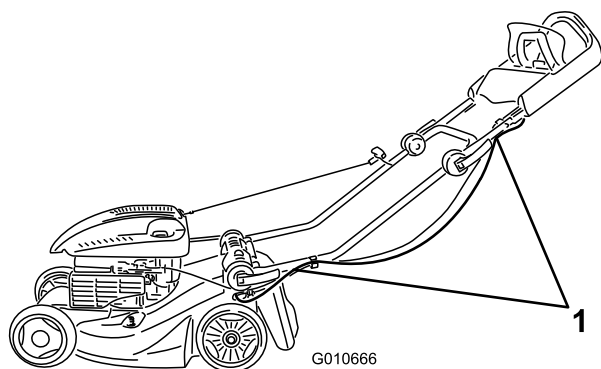

Figure 11
- 16. Secure the wire harness to the handle with 2 cable ties (Figure 11).